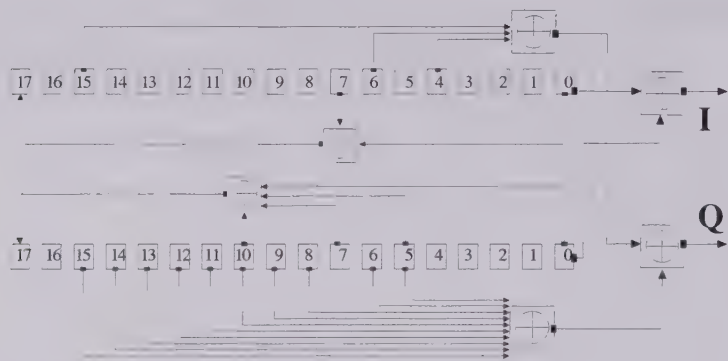

Fig. 8-2 Structure of downlink scrambling code generator
This generator consists of a pair of shift registers from which the binary sequences for inphase and orthogonal component of the scrambling code are determined. Fig. 8-2 shows that the I component is produced as EXOR operation of the LSB outputs, whereas the register contents are first masked and read out for the Q component and then EXORed.
**Note:** As an alternative, the Q component can also be determined using a register pair of the same structure, which is operated in idle state for a certain number of cycles before the scrambling code bits are taken. This I/Q offset is 131.072 in the downlink and 16.777.232 in the uplink long scrambling code generator of similar design. The implementation shown in Fig. 8-2 is the most efficient choice.